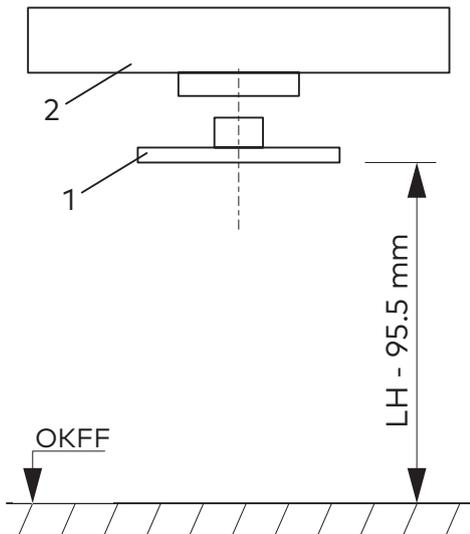

Fig. 89 Distance to the floor
6. Align the upper cross fitting (Fig. 89/1) to the distance of the clearance height (LH) - 95.5 mm toward the floor as shown in Fig. 89.
Position the upper cross fitting (Fig. 89/1) under the operator so that both components are directly under one another.